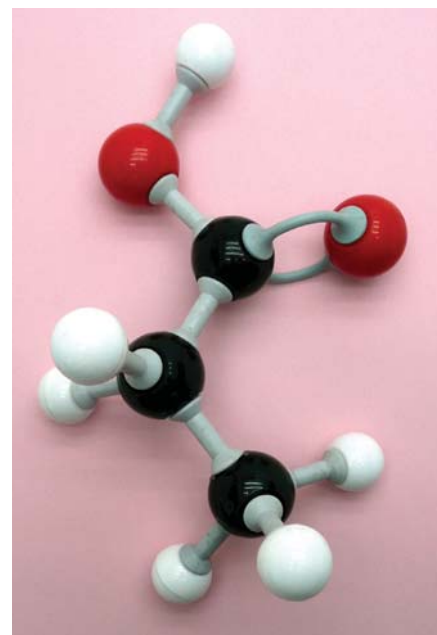

Figure 3.4 ▲
- 2 Give the molecular formula, skeletal formula and name of the acid shown in Figure 3.4.